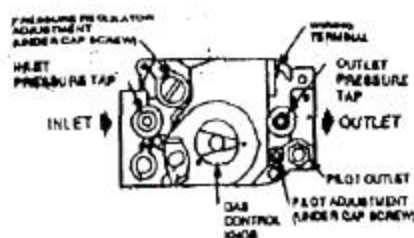

Figure 1 - Top View Of Gas Control
1. Remove the pilot adjustment cover screw. Refer to Figure 1.
2. With the main burner operating, check the gas pressure using a manometer connected to the gas control outlet pressure tap. Refer to Figure 1.